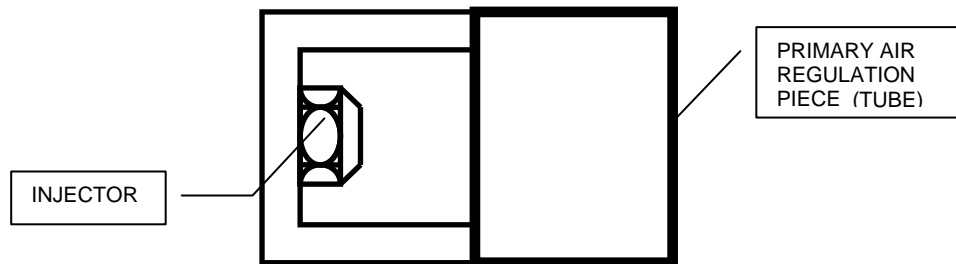

Figure 2
- Unscrew the injector counterclockwise, according to fig. 2
- Loosen screw (fig. 2).
- Move the burner tube-like regulator with some gentle strokes until a stable flame is achieved according to the gas type installed (fig. 2 and chart 5)